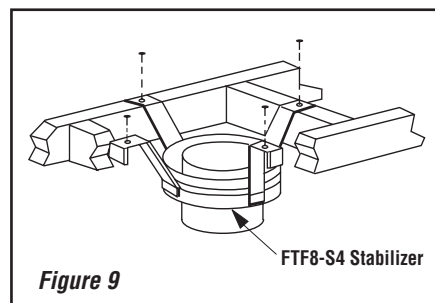

Figure 9
Install the Model FTF8-S4 stabilizer by fitting inner section down into respective section of proceeding flue pipe and locking outer stabilizer section into place over the outer chimney pipe. Position for proper clearance through framed opening and nail straps securely (under tension in "shear") into place on framing. Use 8d nails. Attach successive lengths of chimney pipe directly to stabilizer using same techniques as described in Step 4 (Figure 9).
Step 1. Use Offset Chart to determine amount of horizontal offset (A) and height (B) for various chimney section assemblies.
Step 3. Use Elevation Chart as job estimator only. Add necessary firestop spacers and stabilizers as required. Firestop spacers must be used as shown in *Figure 16* and stabilizers as shown in *Figure 9*.